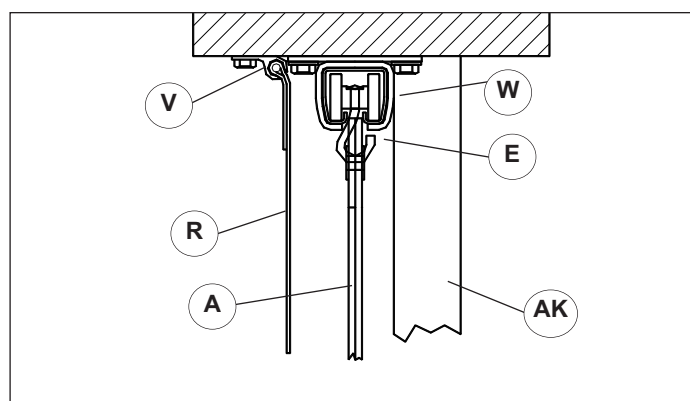

Figure 7.2
5. Attach curtain to the jamb using the pressure plate and fasteners supplied by others, **Figure 7.2**.